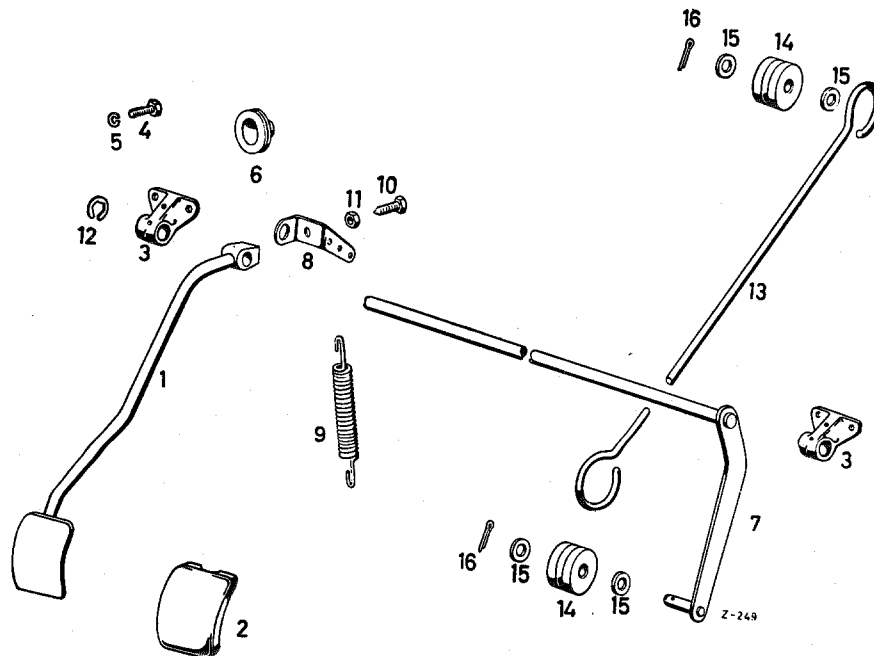

Fig. 30 — 1/1
1. Pull the cotter pin (16) out of the lever of the control shaft (7) and pull the push rod (13), together with the damper ring (14) and the washers (15), off the lever of the control shaft (7) (see Fig. 30 — 1/1).
**Note:** On recent models, the washers (15) and the cotter pin (16) are no longer used. The bolt riveted to the control shaft lever takes the form of a button bolt.
2. Detach the return spring (9).
3. Pull the retaining ring (12) off the control shaft (7).
4. Loosen the hexagon nut (11) of the fixing bolt (10) for the accelerator pedal and screw out the fixing bolt.
5. Unscrew the bracket for the flexible drive shaft of the speedometer from the right bearing (3).
6. Unscrew the two hexagon screws of the right bearing (3). Then pull out the control shaft (7) from the left bearing (3) and the accelerator pedal and remove, together with the right bearing.
**Note:** The left bearing (3) for the control shaft should only be removed if the bearing is worn and has to be replaced.
7. Remove the right bearing from the control shaft (7).
8. Slide the right bearing (3) onto the control shaft (7). Then slide the control shaft toward the left through the accelerator pedal (1) and the lever (8) and insert the control shaft in the bearing (3) (see Fig. 30 — 1/1).
9. Attach the right bearing (3) to the toeboard by means of two hexagon screws. Do not omit the lock washers!
10. Install the retaining ring (12) on the control shaft (7).
11. Turn the control shaft (7) until the locating center is visible through the bore in the
accelerator pedal. Hold the shaft in this position (see Fig. 30 — 1/1).
12. Insert the fixing bolt (10) through the lever (8) and screw it into the accelerator pedal (1). Then tighten the hexagon nut (11).
13. Attach the return spring (9).
**Note:** According to the pedal force required, the return spring can be attached in any one of the three bores in the bracket (8).
14. Slide the washers (15), the damper ring (14), and the push rod (13) onto the lever of the control shaft (7) and cotter (see Fig. 30 — 1/1) or, on the new version with button bolt without washers and cotter pin, push on the damper ring.
15. Screw the bracket for the flexible drive shaft of the speedometer to the right bearing (3).